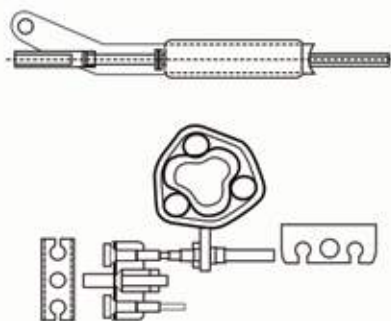

FIG 9.
- ix. Ensure the balance bar (compensation) is being pulled evenly. This bar (double on tandem axles) should always be paralleled with the axle tube when pulled (figs. 10). Adjust M8 lock and ball nuts, if necessary, to achieve correct parallel position (Fig. 9).
- xii. Adjust the two locking nuts, forward of the spring cylinder (Fig. 9) (on some chassis a single Nyloc nut is used) (Fig. 10) to give 1mm of clearance on the spring cylinder. This cylinder (the energy store for the handbrake operation) must be able to rotate only, not slide on the brake rod. (See Fig. 9) If the overrun assembly is fitted with a gas strut handbrake then no spring cylinder is fitted, therefore ignore this paragraph.)